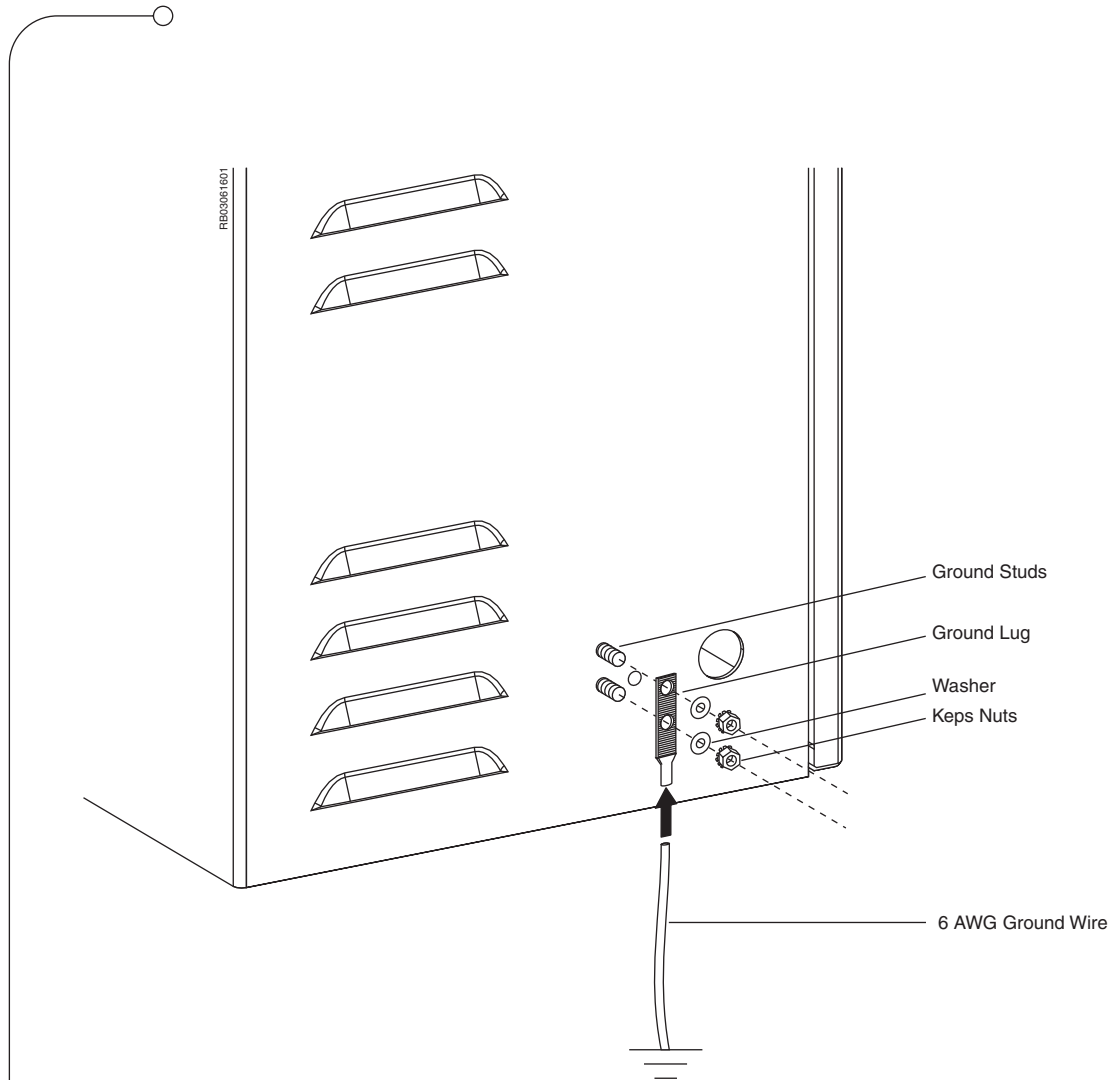

Figure 3.22 Ground Connection
3. Secure the ground lug to the ground studs on the SBS Battery Enclosure, as shown in Figure 3.22 on page 73.